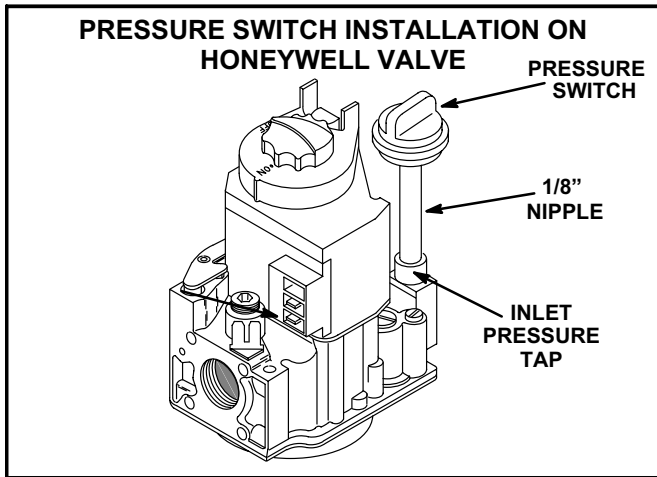

FIGURE 5
- 17- Remove cap screw from inlet pressure tap on gas valve. Apply pipe thread compound to threads of the 1/8" BIP nipple and screw the pressure switch/BIP nipple assembly into the inlet pressure tap on the gas valve. See figures 2 and 3 for gas valve inlet pressure tap location. Figures 5 and 6 show installed pressure switches.